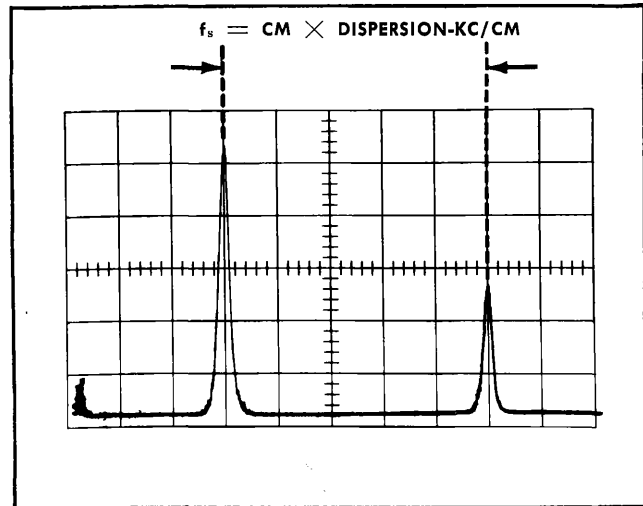

Fig. 2-3. Illustration of frequency difference measurement between two signals.
3. Measure the distance, in graticule divisions, between the two signals (see Fig. 2-3).